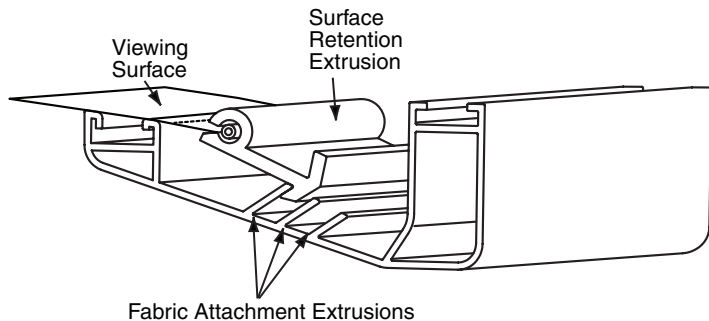

Figure 10
- ④ Surface retention extrusion should extend beyond edge of viewing surface equally at both ends.
- ⑤ Verify that all surface retention extrusions are installed with rounded edge visible and are centered on surface material.
- ① Return frame onto clean surface, face down, and drape completed surface assembly over completed frame profile with rounded edge of surface retention extrusion visible.
- ② Insert any side of surface to notch #1 on corresponding side of frame extrusion (see Fig. 10).